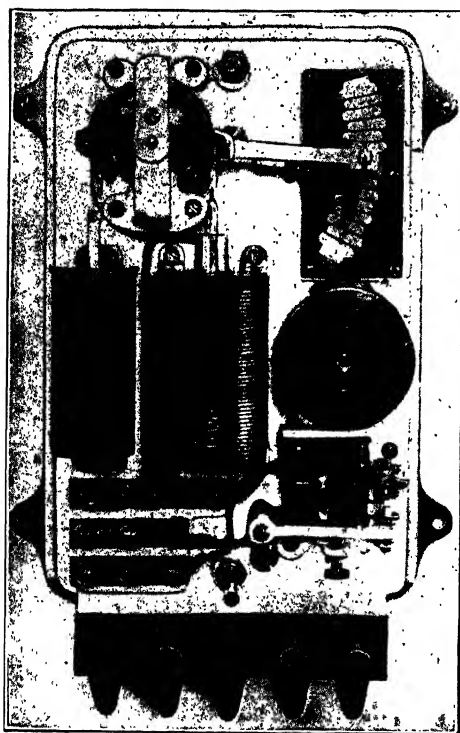

Fig. 151. Adlake "Regulator"
*External Regulator Type.* The Adlake generator is of the constant-potential type governed by an external regulating device, the details of which are shown in Fig. 151. While termed a "regulator",
*Adlake Type.* In Fig. 151, the automatic cut-out switch is seen at the lower right-hand corner of the panel. This differs from the usual types in that it has two shunt and two series electromagnets.